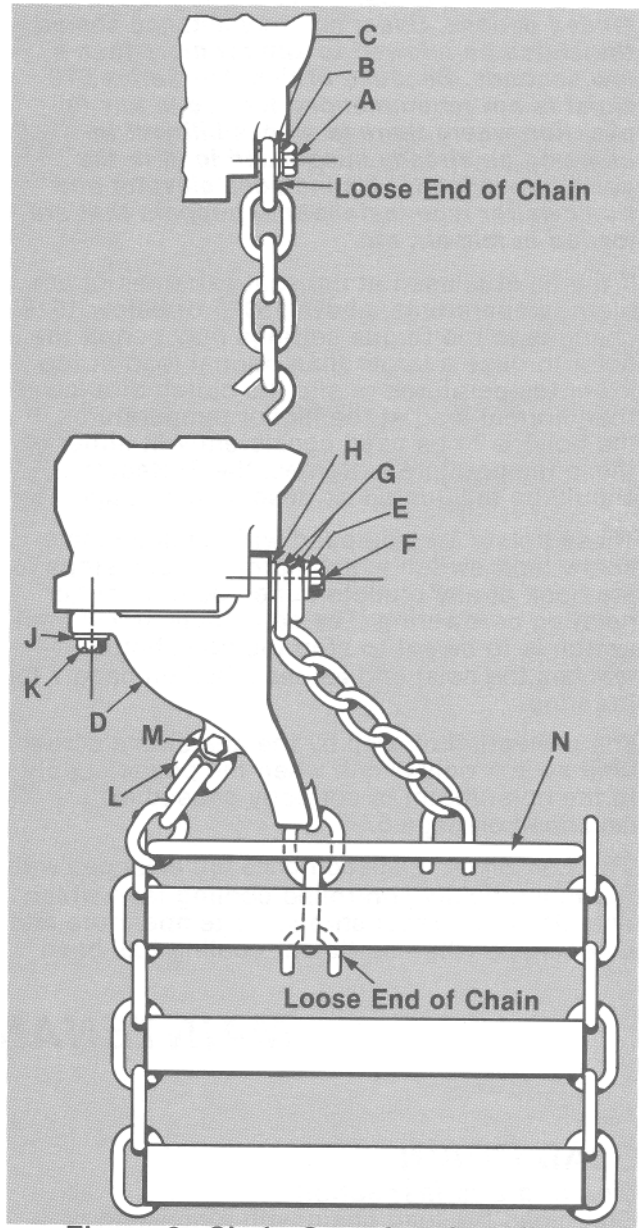

Figure 2. Chain Container Installation
Remove loose end screw (A), lockwasher (B) and plain washer (C) from hoist. These items are not required for installation of chain container. See Figure 2. Insert loose end of chain through channel in chain container chute (D) and into chain container (N). (Parts D through N are included with chain container.) Place washer (E) on the longest 3/8 inch screw (F). Now place the end links (G) of the two